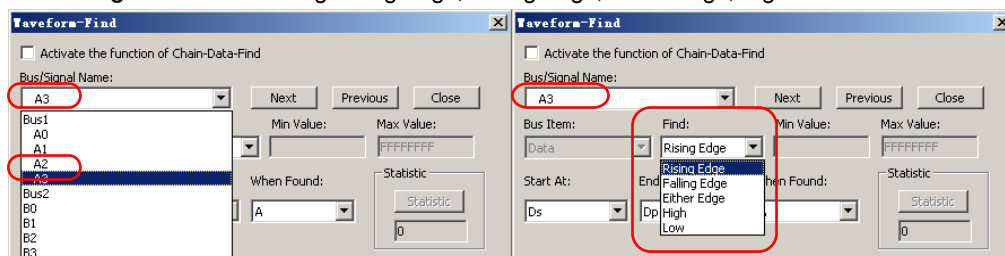

Fig 3-117: Waveform-Find Dialog Box of the Logic Signal
Step3. Choose the character for Find. The list of characters depends on whether it is a Bus, Signal, or the protocol analyzer such as IIC/ UART/ SPI, etc., which is being searched (See Figs 3-117, 3-118, 3-119, 3-120, 3-121, 3-122 3-123, 3-124 and 3-125).